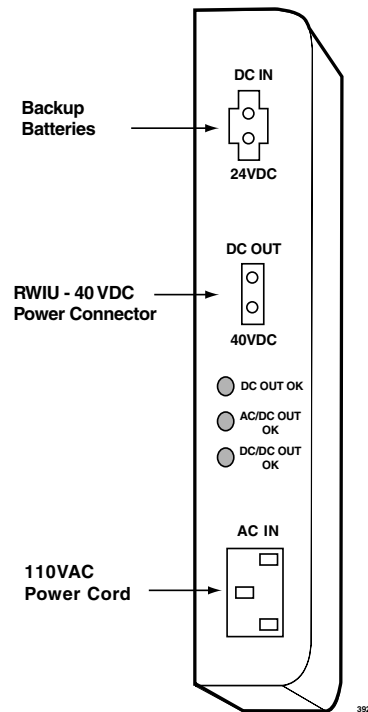

Figure 27 RWIU Power Supply
1. Use the external power supply (see Figure 27) to increase the amps for each Base Station.